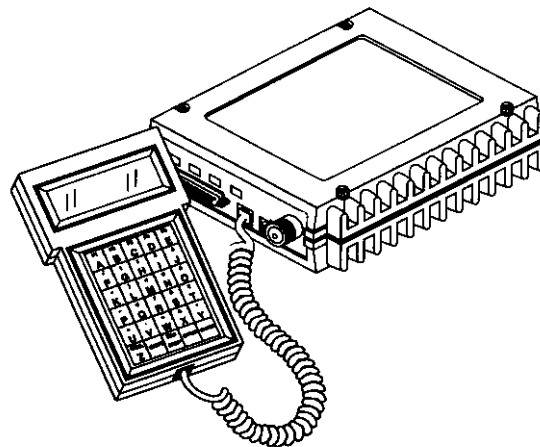

Figure 19. HHT connected to transceiver
- a. Connect an HHT to the DIAG(NOSTICS) connector (see Figure 19). After the HHT beeps, press **ENTER** to display the ready ">" prompt.